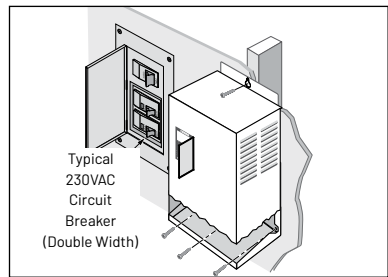

Figure 6 - Attaching Drive to wall
To mount the Drive as shown in Figure 6, follow this procedure:
4. With the cover removed, permanently mount the Drive using the top slotted hole, plus either the three bottom holes (for flat surface mounting) or the center bottom hole (for attaching to a post or stud). See Figure 6.
5. Ensure the Drive's ventilation holes are not blocked and there is enough space around it to allow free air flow (minimum 75mm clearance on top, bottom, and sides). See Figure 6. Once the Drive is mounted, electrical wiring can be connected.